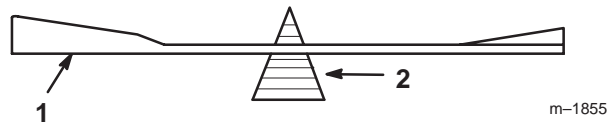
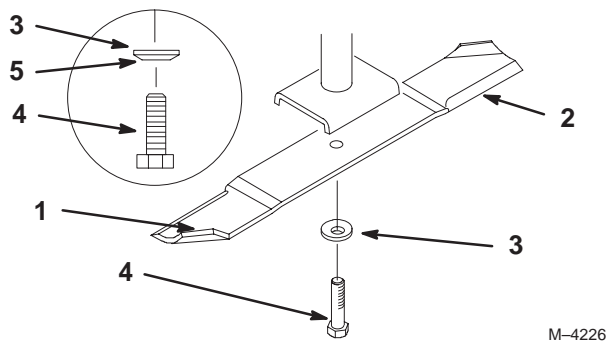

Figure 30
Figure 31
1. Hold the blade end using a rag or thickly-padded glove. Remove the blade bolt, spring disk and blade from the spindle shaft (Fig. 31).
2. Check the balance of the blade by putting it on a blade balancer (Fig. 30). If the blade stays in a horizontal position, the blade is balanced and can be used. If the blade is not balanced, file some metal off the end of the sail area only (Fig. 31). Repeat this procedure until the blade is balanced.
1. Install the blade onto the spindle shaft (Fig. 31).
2. Install the spring disk and blade bolt (Fig. 31). **Torque the blade bolt to 85–110 ft-lb (115–150 N•m).**